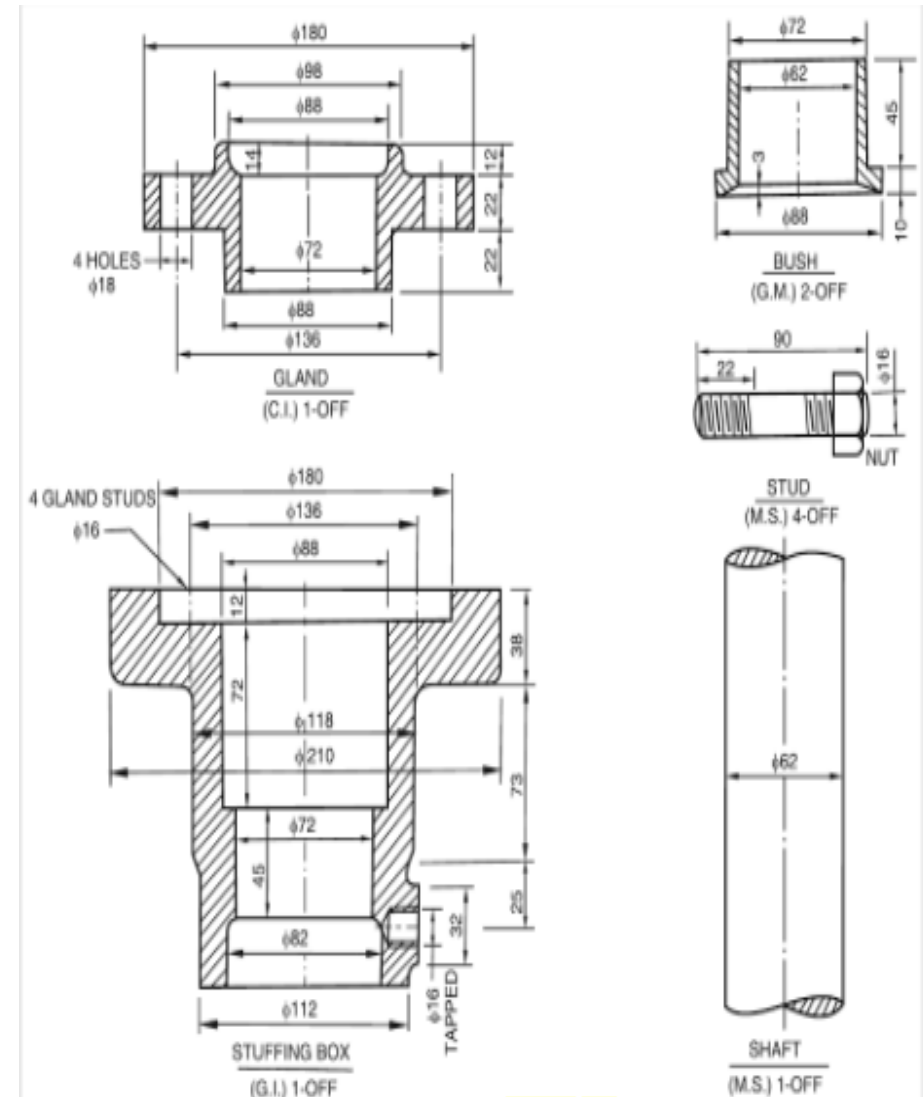

Figure-2
- OR iii. The following figure-2 shows the details of stuffing box. Draw the Half sectional Front View of assembled stuffing box in their working position. **8**